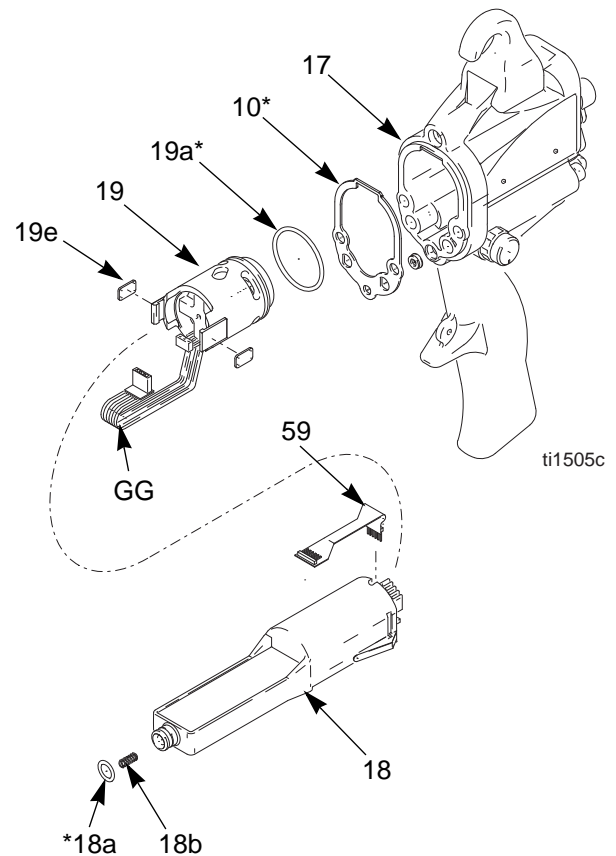

Fig. 31. Power Supply
3. Grasp the power supply (18) with your hand. With a gentle side to side motion, free the power supply/alternator assembly from the gun handle (17), then carefully pull it straight out. *On Smart Models only*, disconnect the flexible circuit (59) from the socket at the top of the handle (17). See FIG. 31..
4. Disconnect the 3-wire connector (GG) from the power supply. Slide the alternator up and off the power supply. Inspect the power supply and alternator for damage. *On Smart Models only*, disconnect the 6-pin flexible circuit (59) from the power supply.